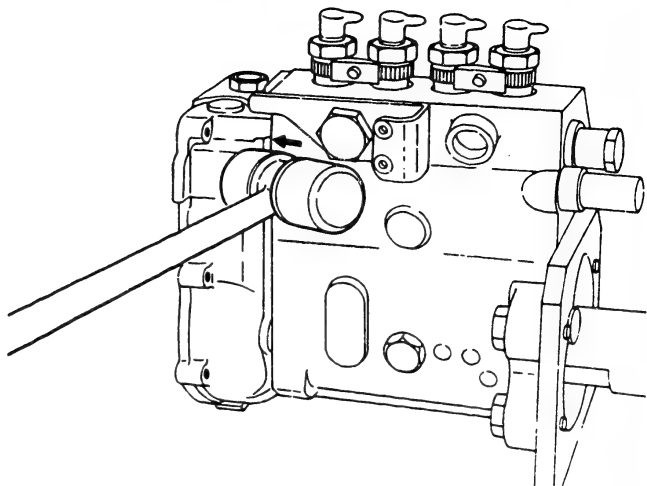

Fig. 85 Removing the governor housing
33. By tapping the governor housing lightly with a mallet, separate it from the pump housing. (Fig. 85)